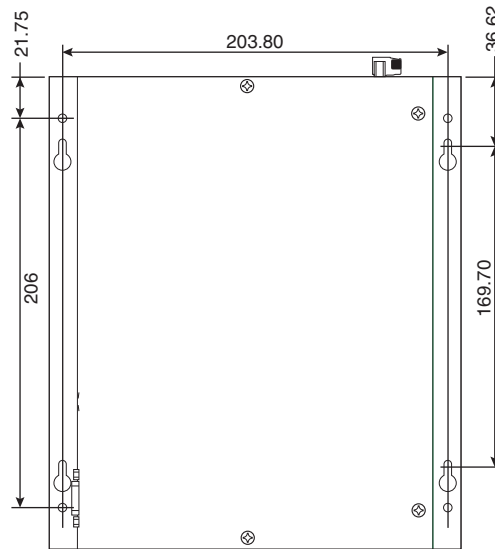

Figure 4-3 Template for wall mounting
- Mount the BPC 9102S using the keyhole-shaped mounting holes in a vertical mounting position (see Figure 4-3 on page 62).
- Use the BPC 9102S as a template and mark the positions of the mounting holes on the mounting surface. Alternatively, use a true-to-scale version of the template in Figure 4-3.
- Hang the BPC 9102S onto the fastening material on the mounting surface in accordance with the orientation in Figure 4-3.